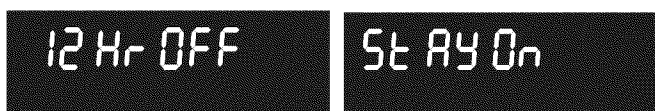

Figure 10: 12 hr energy saving (L) and continuous setting (R)
2. Press **Self Clean** to toggle between 12 Hour OFF or **Stay On** feature (Figure 10).